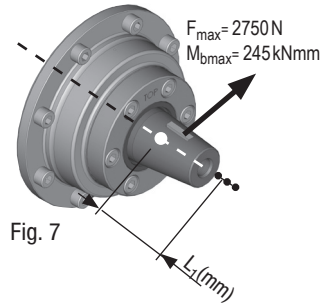

Fig. 7
- The force applied at the force engagement force by the belt tension (see Fig. 7) must not exceed $F_{max} = 2750$ N.